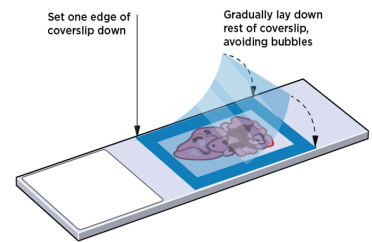

Figure 17: Apply Incubation Frame Cover
Start by adding the hybridization solution to the edge of the tissue opposite of the slide label within the frame. Applying the incubation frame cover will help move the hybridization solution across the tissue (Figure 17).
- **Carefully apply incubation frame cover** (Figure 17). Start by setting one edge of the cover down on the incubation frame edge, then gradually lay down the rest of the cover. The tab on the incubation frame cover should face the slide label. As it's lowered, the frame cover should naturally adhere to the incubation frame; no additional pressure around the frame is needed. **Do not press the center of the cover as it could damage the tissue.**